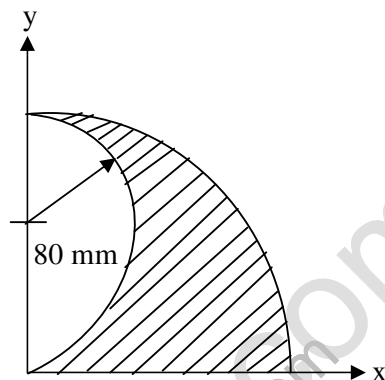

Figure 3
4. a) Determine the product of inertia of shaded area as shown in Figure 3 about the x-y axis.